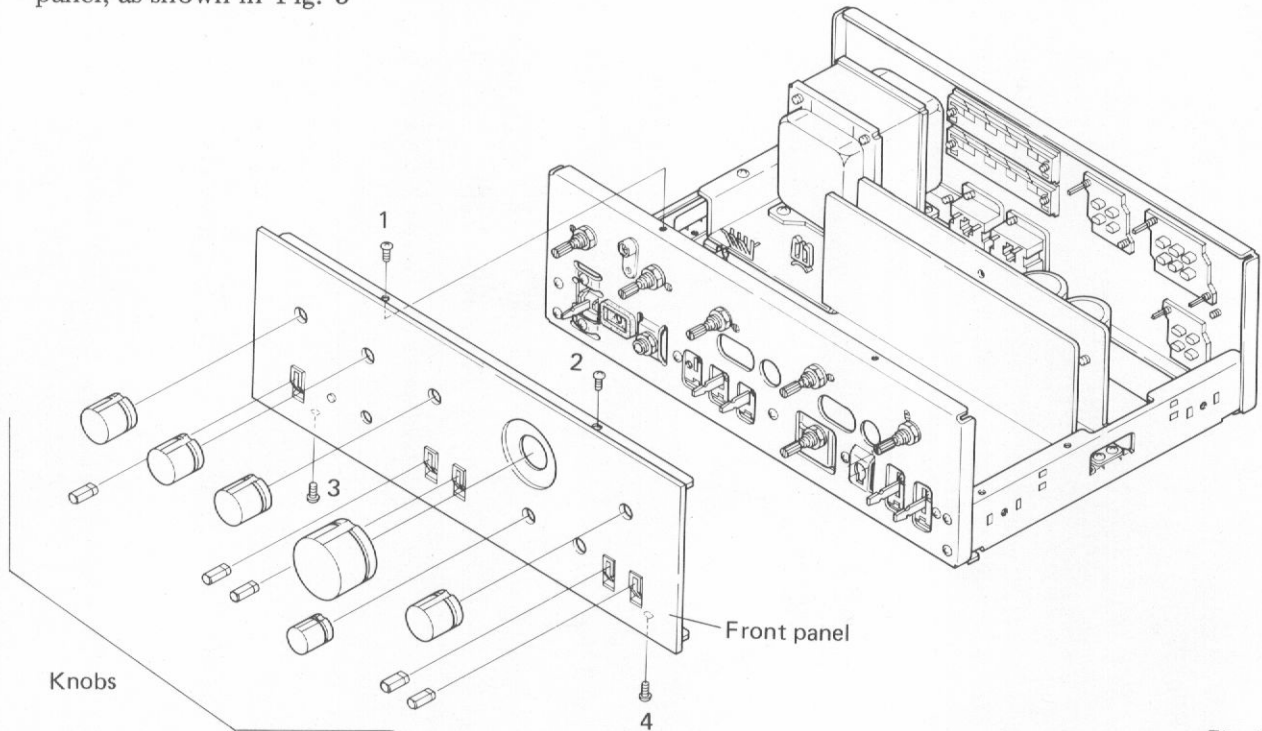

Fig. 5
2. Remove the 1 ~ 4 screws to detach the front panel, as shown in Fig. 5